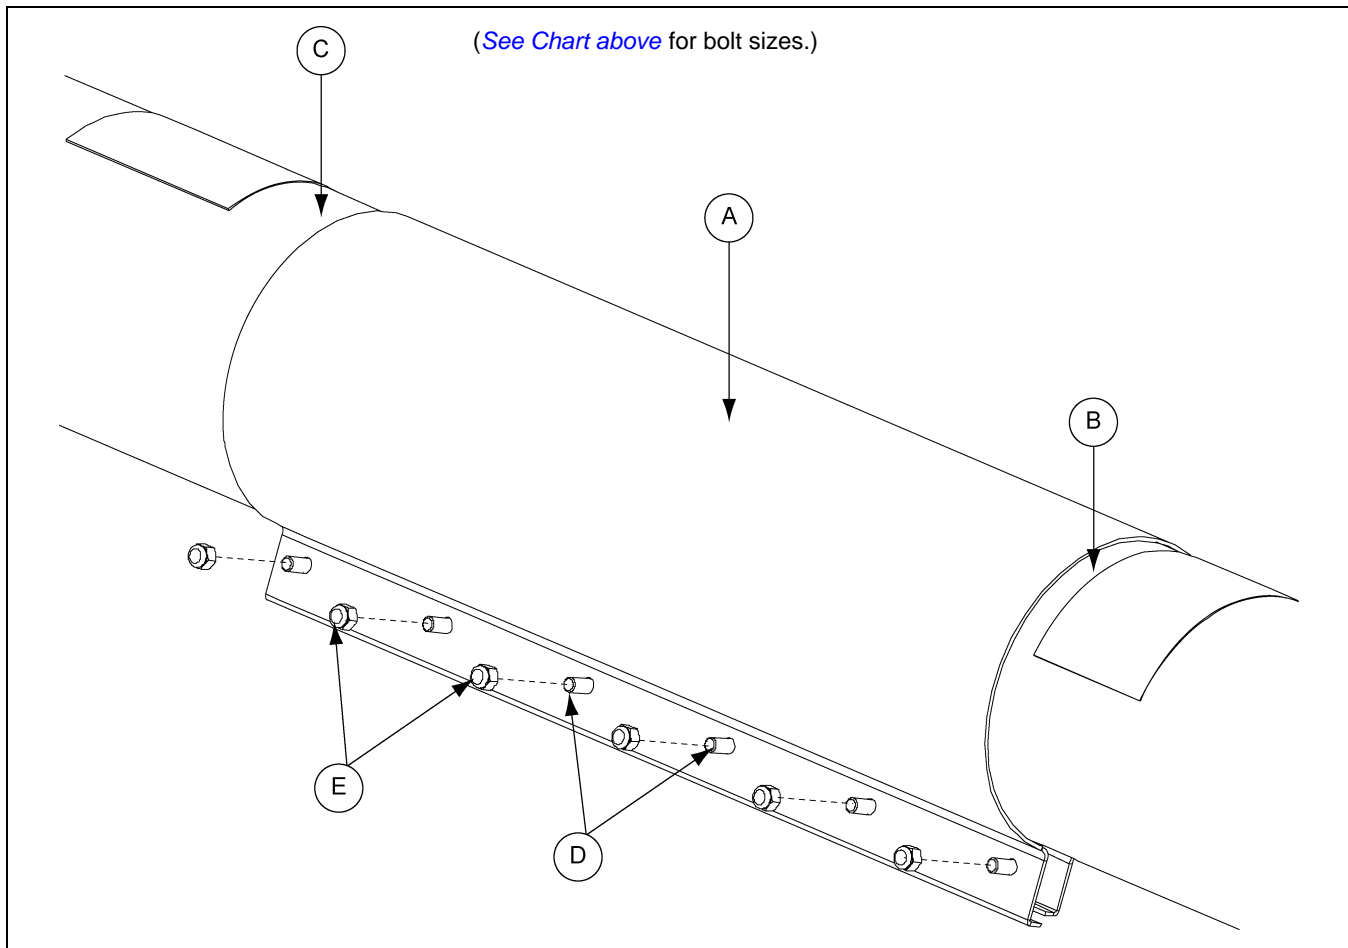

Figure 40
- Slide the extension connecting band (A) over the two (2) sections of tube, making sure the connecting band is centered over the mated surfaces of the tubes. Tighten the connecting band down using the correct hex bolts (D) and nylock nuts (E). (See Chart below and Figure 40.)